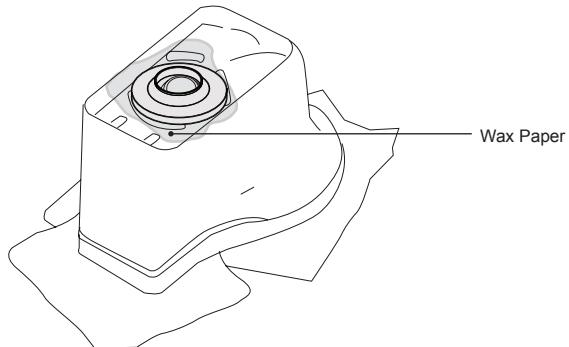

Figure 4
- ③ Place a piece of wax paper over the wax ring and press the wax ring firmly into place (Figure 4).